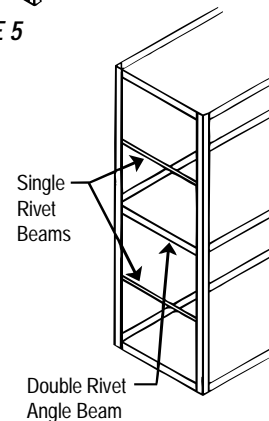

FIGURE 7
Units 11' to 16' tall must have (1) level of double rivet angle beams all the way around the perimeter, right-to-left and front-to-back located in about the middle of the unit and front-to-back single rivet angle beams running from front-to-back located about the midway of the halves. See *Figure 7*.
Units 30" deep or deeper must have single rivet beams front-to-back at every intermediate level. Additionally, units 11' to 16' must have an intermediate double rivet beam level around the perimeter located in the middle of the unit. See *Figure 7*.